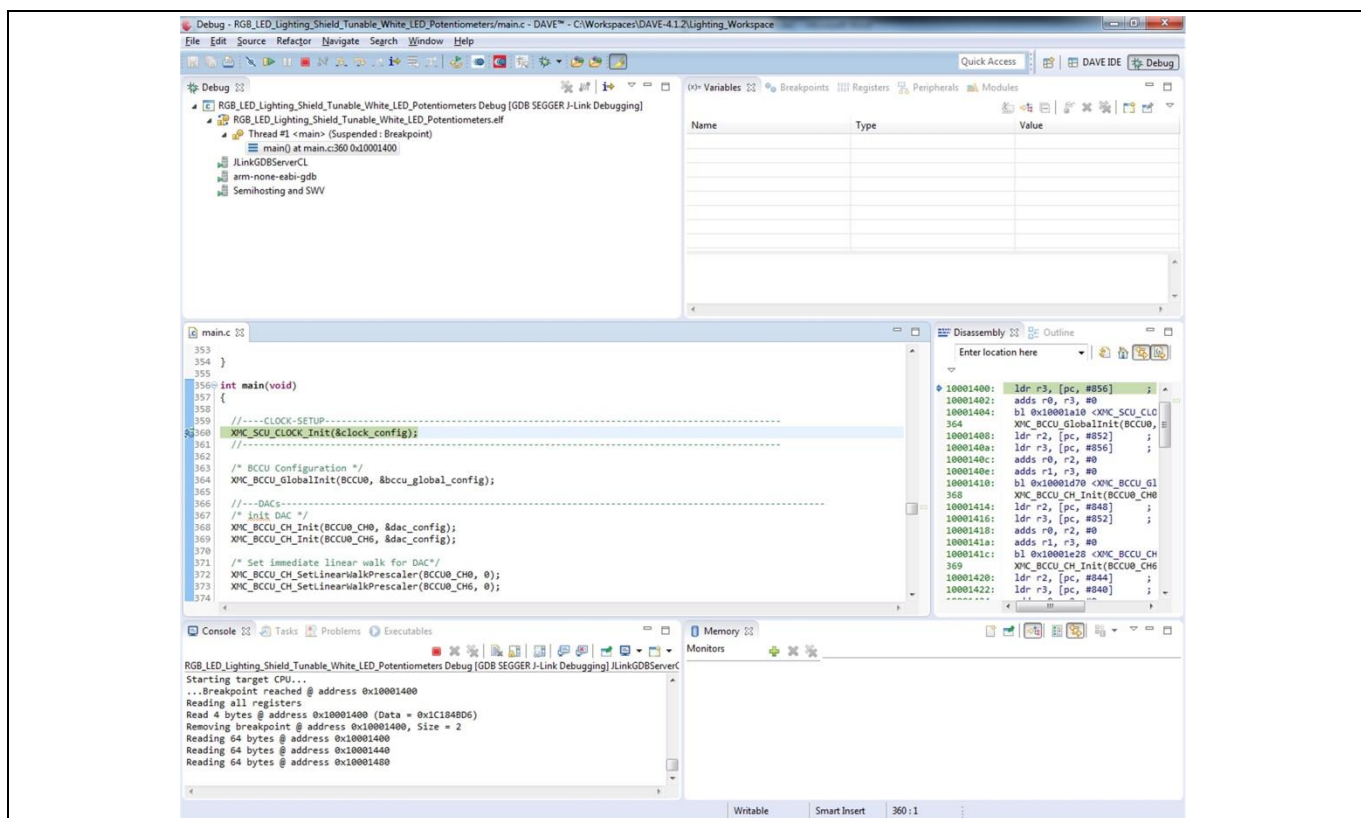

Figure 24 Debug perspective
- The firmware is now programmed to the XMC1202 microcontroller (you can monitor the progress). Once finished, the debug perspective is launched (Figure 24).